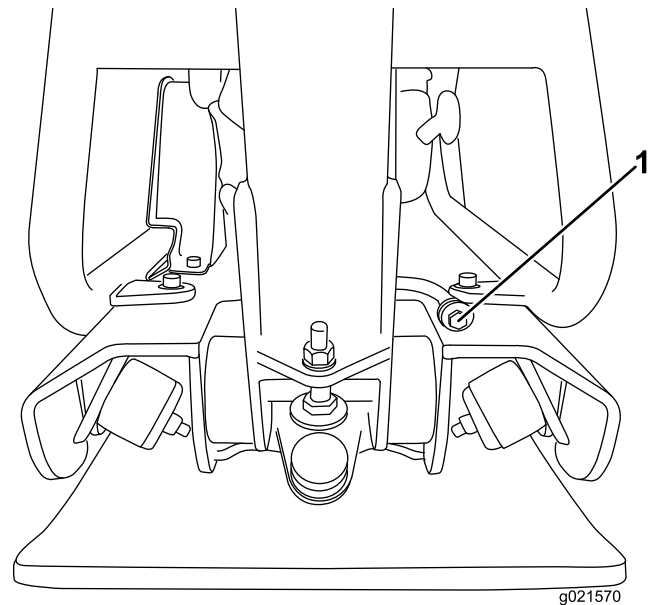

Figure 21
3. Remove the drain plug (Figure 21).
2. Place a drain pan under the drain plug (Figure 21).